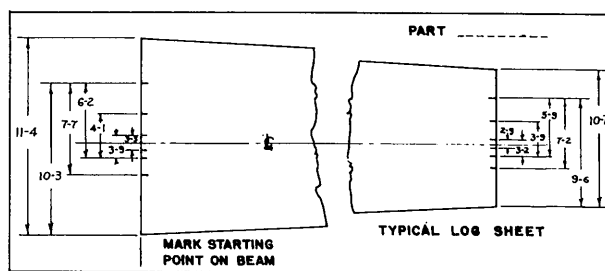

Fig. 6
10. Prepare a log sheet for the production forming of the skin to be fabricated, with the roll positions tabulated for each mark on the sheet. (Fig. 6)